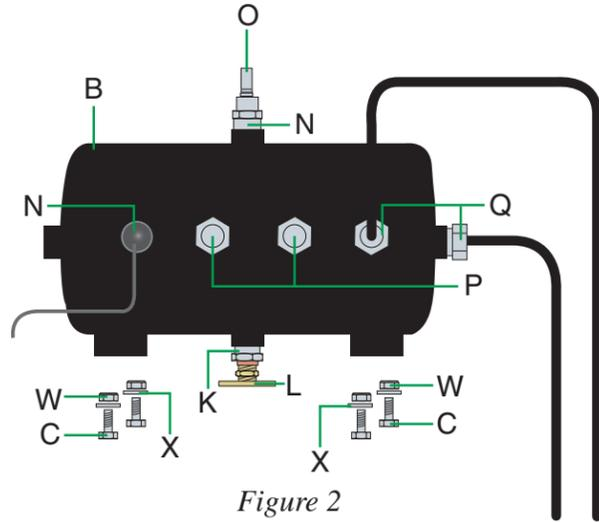

Figure 2
**IMPORTANT:** Depending on the orientation of the tank when it is mounted, the fittings may go into different ports on the tank. The drain valve must always be put into the port facing downwards (Figure 2).